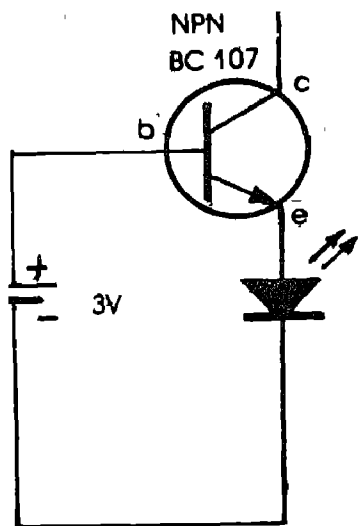

Fig. 6.5
3. Now connect the positive side of the battery to the base and negative side to the emitter of the battery. Collector is left open. (Fig. 6.5) Switch ON the power supply ON and observe the glow of the lamp.